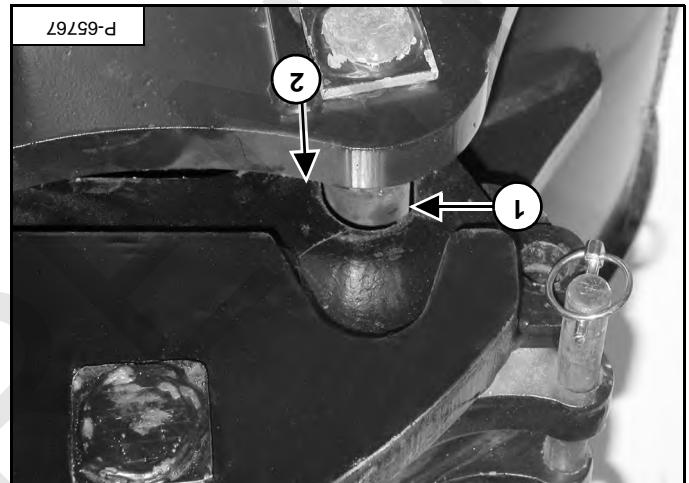

Figure 93
Extend the bucket cylinder (curl in) the coupler until the rear pin of the attachment (curl in) is firmly seated in the coupler (item 2) [Figure 93].